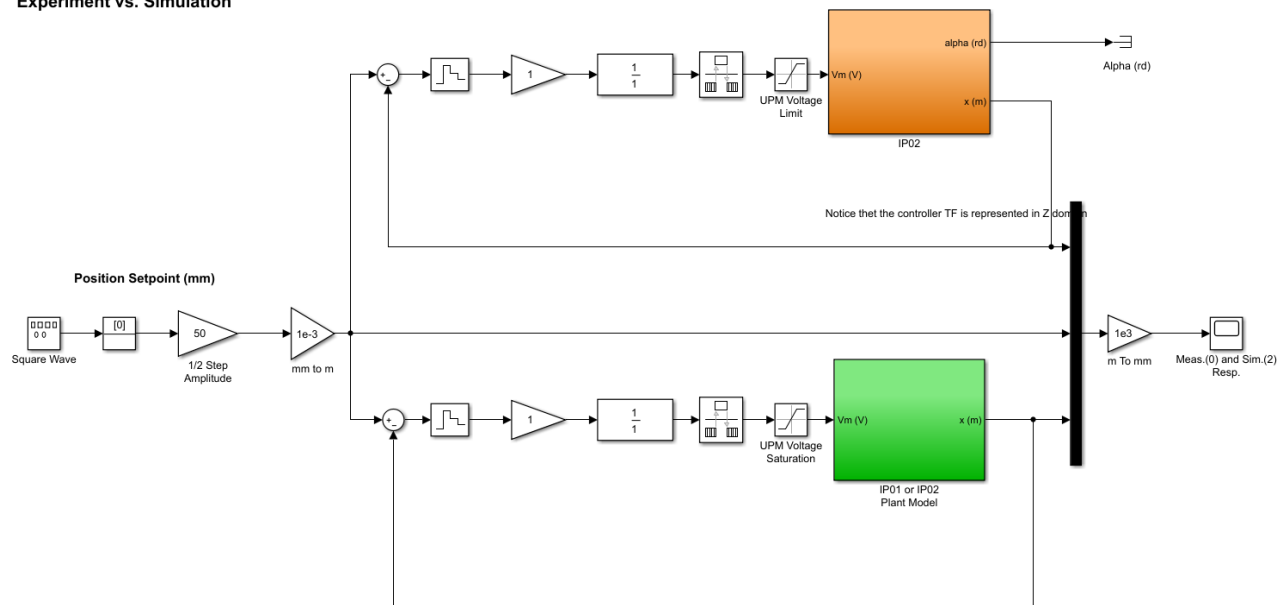

Figure 4: Simulink diagram used for the real time implementation of the deadbeat controller
2. Open the model `q_position_deadbeat_ip02.mdl` as in Figure 4.